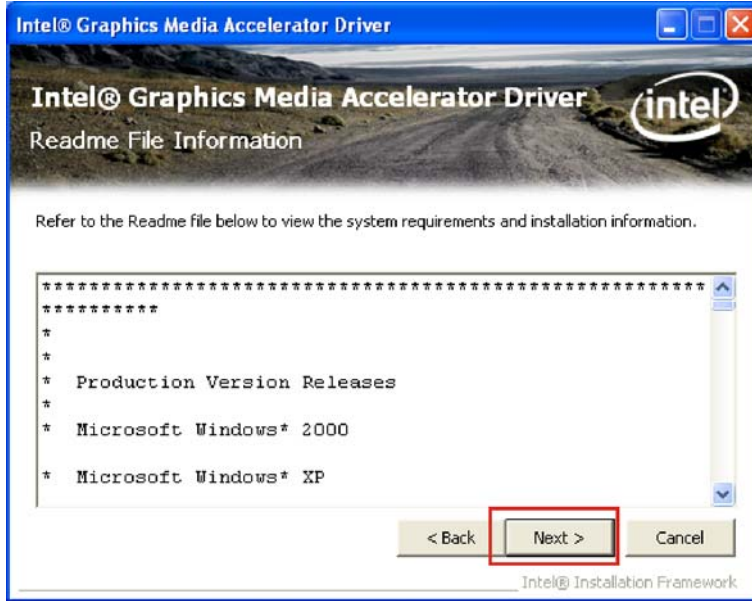

Figure 6-14: VGA Driver Read Me File
Step 13: The Readme file in **Figure 6-14** appears.